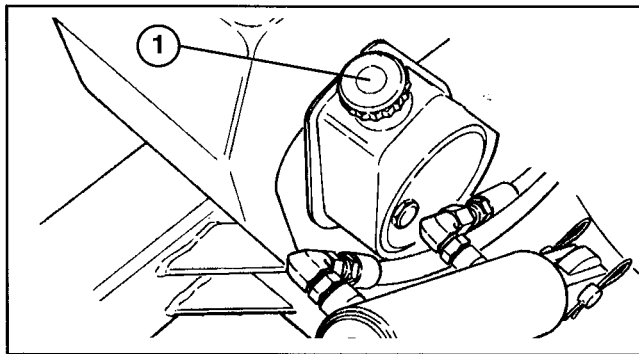

Figure 33
2. Position a drain pan under chassis below pump assembly (Fig. 33).